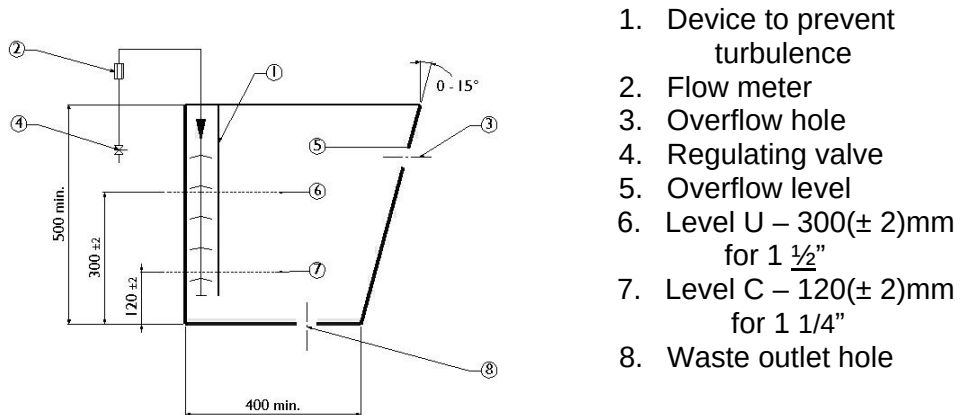

Figure 1
5.1.2 Connect the valve to the waste outlet hole of the tank in accordance with Figure 1 and the manufacture's installation instructions. Fill the test tank with water up to the test level. Stabilize the test level by adjusting the water inflow by means of the regulating valve. The flow rate of the valve is indicated by the flow meter, when the test water level is stabilized.